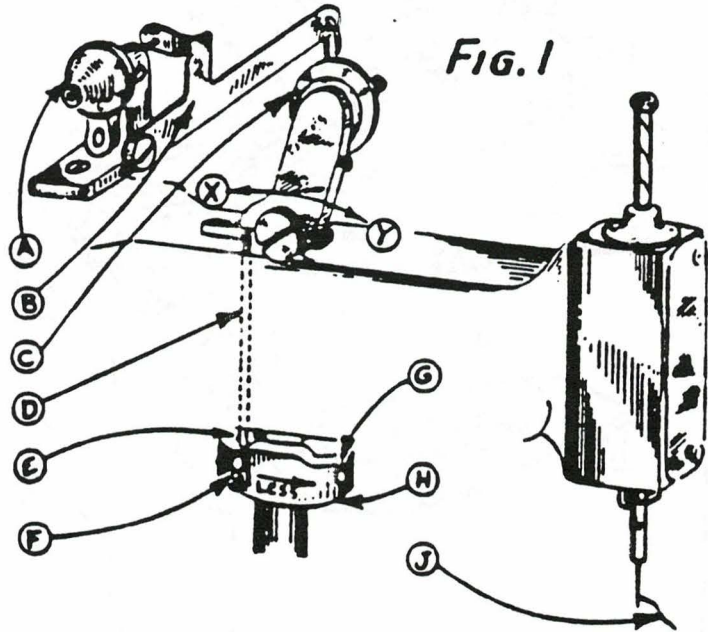

FIG. 1
TO OBTAIN MAXIMUM LENGTH OF STARTING THREAD AT (J) PROCEED AS FOLLOWS: MAKE SURE MACHINE IS IN ITS NORMAL STOPPING POSITION. LOOSEN SCREWS (F) AND (G) AND ROTATE CAM (H) TO THE POINT WHERE PIN (D) IS AT THE BOTTOM OF THE CAM DROP AT (E) AS SHOWN FIG. 1. THEN TIGHTEN SCREWS (F) AND (G) SECURELY.
TO DECREASE THE LENGTH OF STARTING THREAD AT (J) ADJUST THE POSITION OF CAM (H) AS REQUIRED IN THE DIRECTION OF ARROW MARKED LESS, FIG. 1.